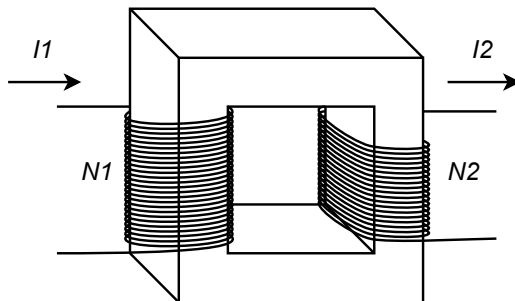

Figure 10.3
9. A transformer is shown in Figure 10.3, assume the cross section is 5 cm by 5 cm. The core is sheet steel with a path length of 20 cm. $N1$ is 500 turns and $N2$ is 200 turns. Determine the secondary current ($I2$) if a primary current ($I1$) of 1 amp establishes a flux of $1.5E-3$ webers.